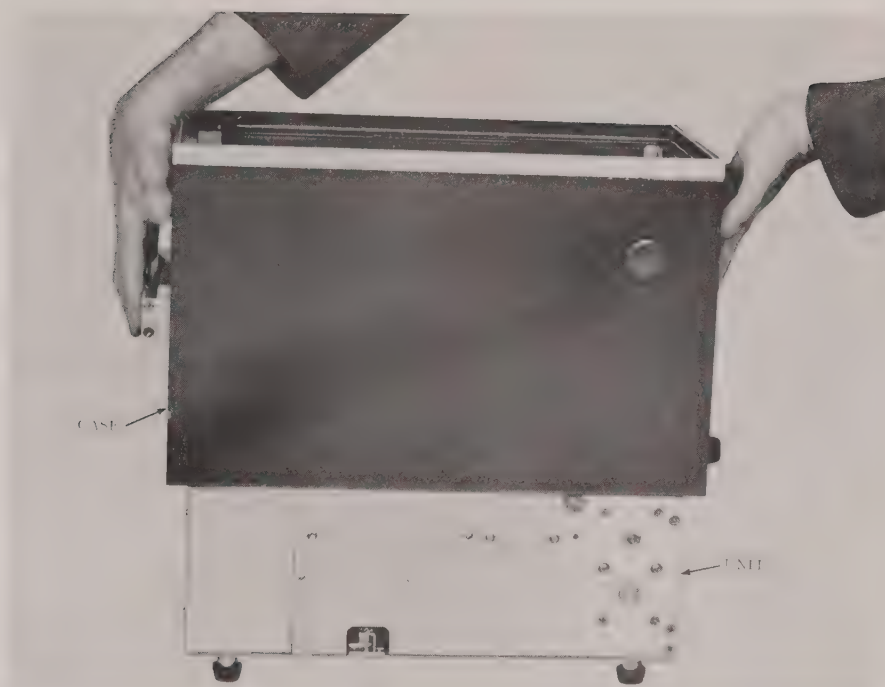

FIGURE 6-3 REMOVE CASE FROM UNIT
7. Carefully tilt recorder onto its back and gently slide case up and off of unit. (Fig. 6-3)
4. Slide case over recorder as shown in Figure 6-3.